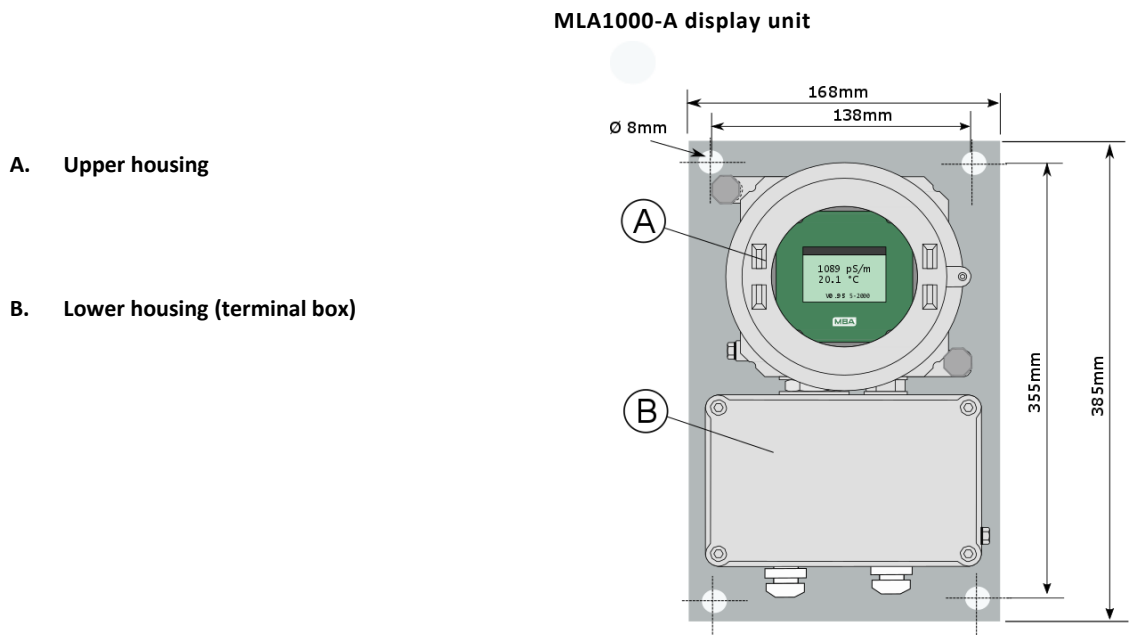

Figure 7
- 4 through-holes are provided in the mounting plate for attachment (see Figure 7).